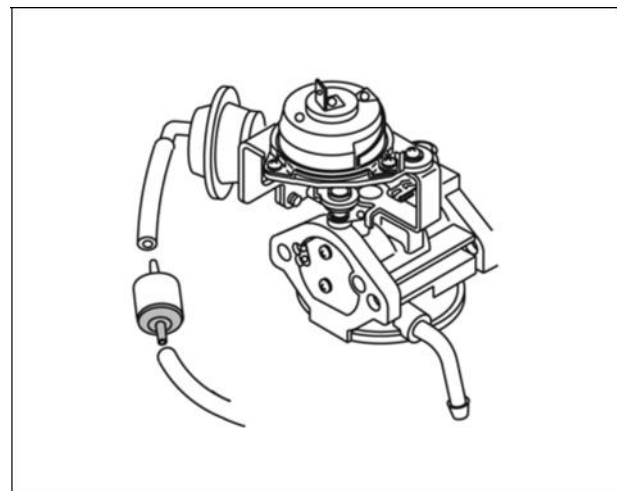

Figure 55
1. Cut vacuum line approximately 2.0 in. (50 mm) from vacuum break side and install vacuum limiter with blue end facing intake manifold (Figure 55).